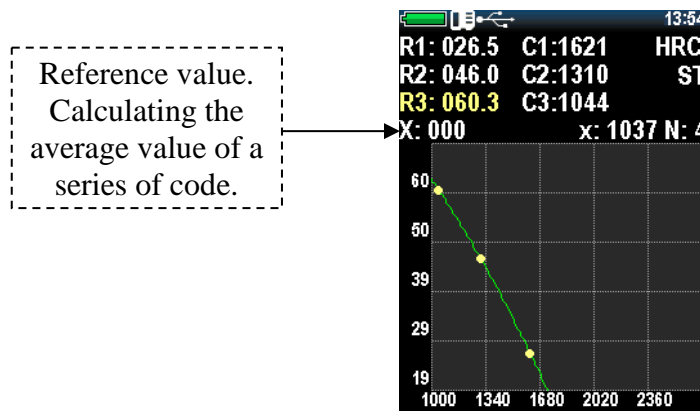

Figure 2.32 - Calibration for one sample
5. Move to the next nominal <  >, and complete the same procedure to the other samples (Figure 2.32).